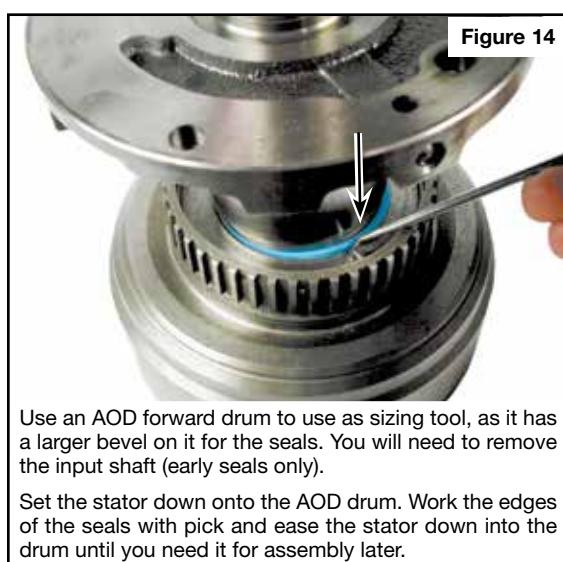

Figure 14
- An AOD forward drum can be used to size the early stator seals (**Figure 14**). The seals can also be sized with the forward clutch drum, although it may take a little longer. Carefully use the back of a pick to work the seals into the drum and let sit for a while so the seals will stay conformed.